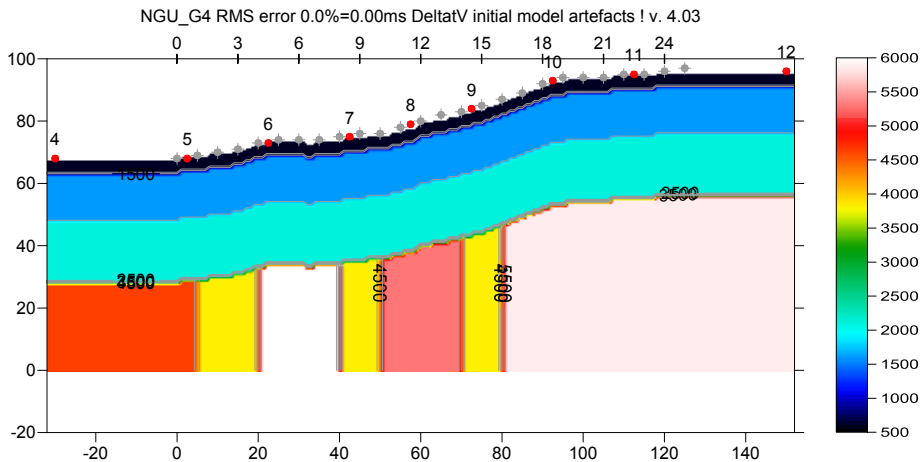

Fig. 7 : select *Grid*|*Image* and contour velocity and coverage grids & C: \RAY32\NGU_G4\INPUT\G4_SYNTHETIC.GRD
- select *Grid\Image and contour velocity & C:\RAY32\NGU_G4\INPUT\G4_SYNTHETIC.GRD* to obtain Fig. 7